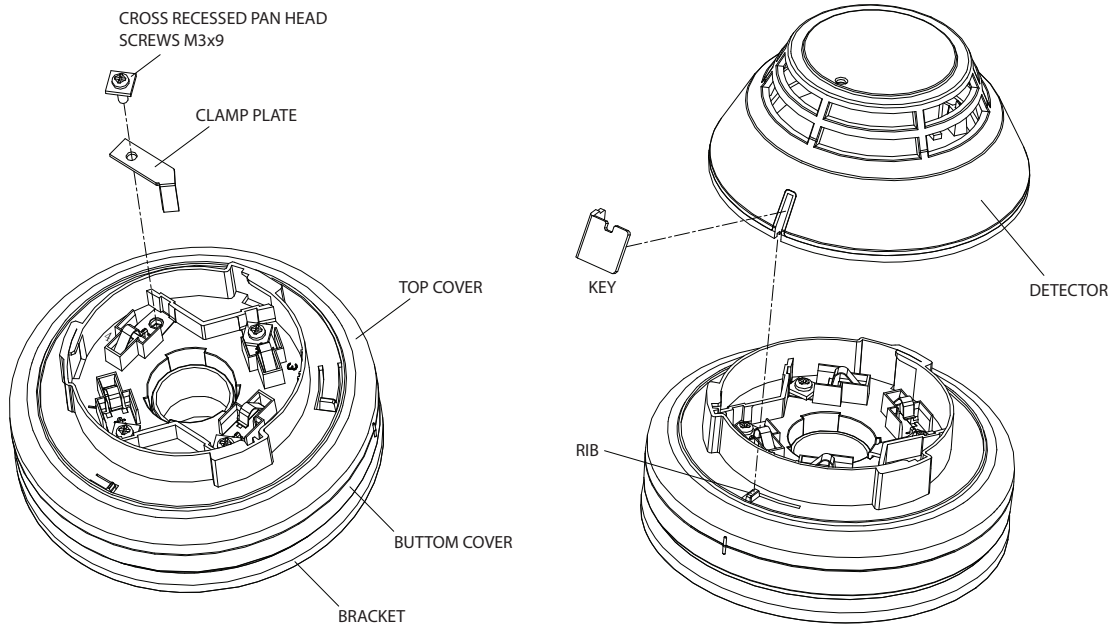

Fig 6
- 4) If the Sounder Beacon Base is required to be tamper-proof, fix it with cross recessed pan head screws M3×9 through tamper-proof hole, and the detector is prevented from disassembly by structural changes (see Fig 6).